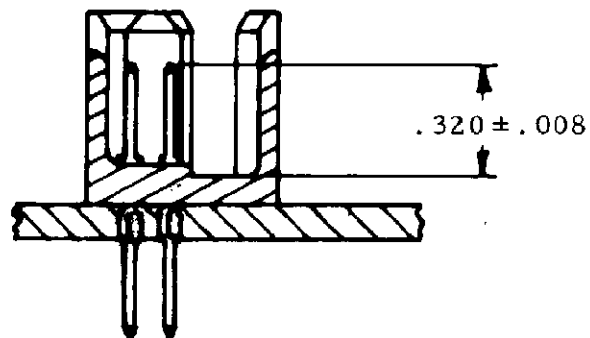

Figure 7
B. Mating post height shall be as indicated in Figure 7 after insertion.